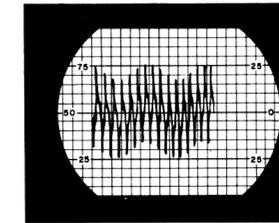

Figure 3.
(7) Apply a 1000 cps test tone to pin 2 of the microphone input jack, (base of the amplifier-clipper stage Q111). Place a 0.33 uf capacitor in series with the tone generator output.
(8) Adjust the 1000 cps input signal level for 1 volt and note the resultant combined deviation of the 1000 cps modulation and tone signal modulation on the oscilloscope.
(9) The IDC control on the transmitter should be adjusted to provide a peak-to-peak combined signal of 10 squares, equivalent to full 5 kc as shown in figure 3.